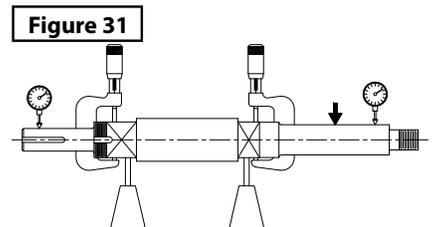

Figure 31
- Inspect the shaft, reviewing the general aspects, replace if you have grooves or pits (see Figure 31).